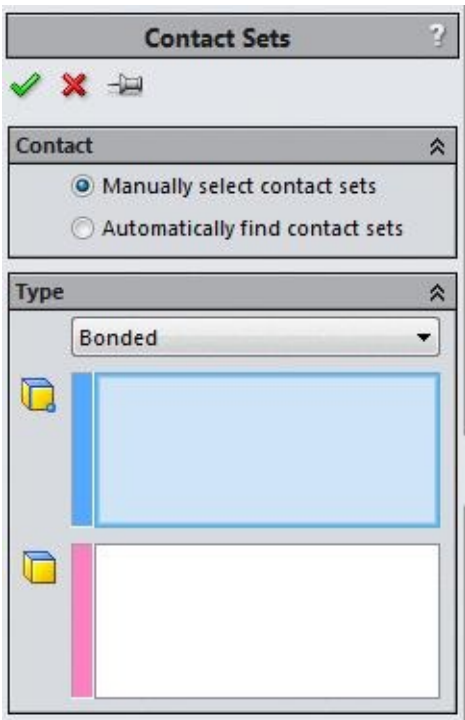

Figure-63. Options in Contact Sets PropertyManager on selecting Bonded option
- Select the **Bonded** option from the drop-down in the **Type** rollout. The options in the **PropertyManager** will be displayed as shown in Figure-63.